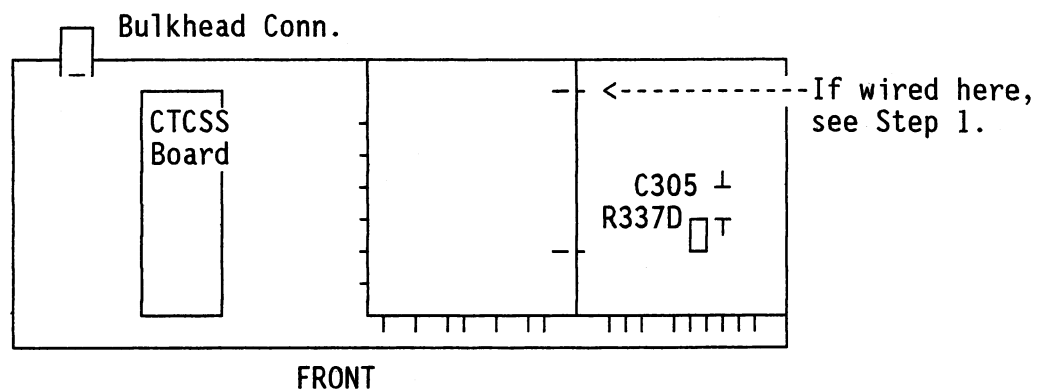

Figure 4-11. Top View of ReIm 800 MHz Repeater
- []7. Solder the 100-ohm, ¼-watt resistor from the cable kit (Part No. 815-9071) across C305 of the repeater. C305 is located behind and to the right of R337D, the Transmit Limit Adjust potentiometer in the repeater transmit cavity. Refer to Figure 4-11.